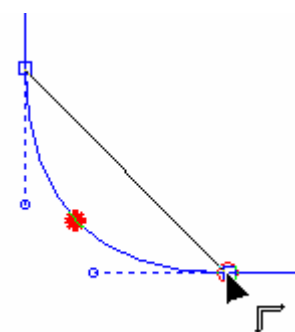

Figure 7-30 Convert to Angle Tool
- ... In similar fashion to the "Convert to arc" tool, we'll select two points. Any two near the corner will do (Figure 7-30).